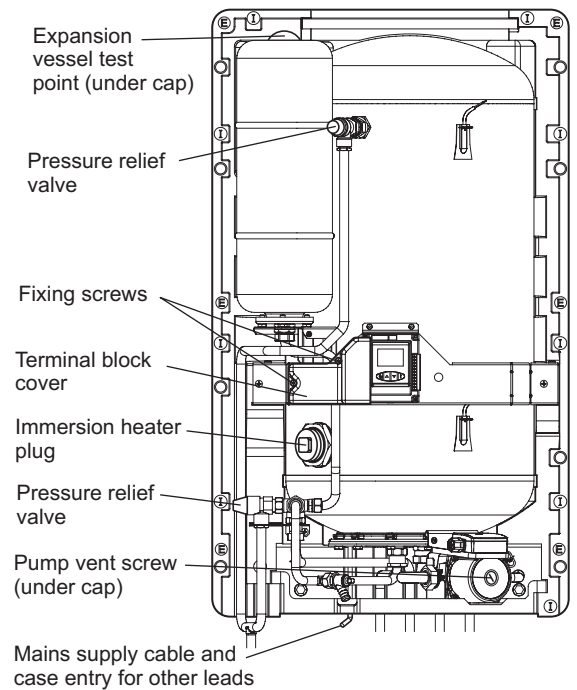
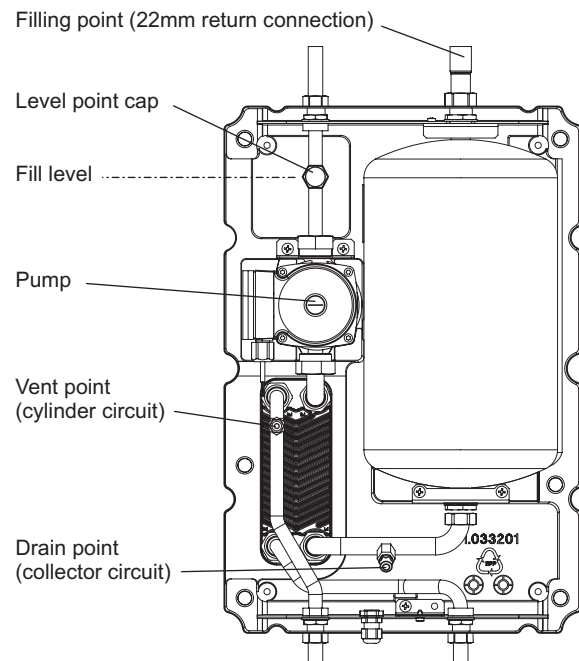

Fig. 20
Fig. 22
4. Check that the pressure in the cylinder expansion vessel (see Fig. 20) is 2.5 bar. If it is not, adjust the pressure to give 2.5 bar. Check when the system is not pressurised (drained).
2. Remove the two screws securing the terminal block cover to the left of the control unit as shown in Fig. 20.
3. **Connect the Drain Back Unit pump** - The drain back unit pump is fitted with a 1.9 m cable. Route the cable to the solar cylinder control unit through the hole in the bottom of the cylinder case (as indicated in Fig. 20) and pass it through a cable clamp.
Route the cable to the solar cylinder control box through the hole in the bottom of the cylinder case (as indicated in Fig. 20) and pass it through a cable clamp.
Vent the cylinder using the vent point in the drain back unit as shown in Fig. 22. Vent the cylinder pump by unscrewing the centre cap (see Fig. 20) and rotate the spindle using a small screwdriver until water runs from it and then replace the cap. Ensure the area around the pump is dry.
5. Check the operation of the two pressure relief valves (see Fig. 20) by turning the head anti-clockwise until it clicks. The click is the valve lifting off its seat allowing water to escape from the system - check that this is actually happening.
1. Unscrew the level point cap from the fitting in the flow pipe above the pump (Fig. 22).
6. Check the charge in the domestic hot water expansion vessel and re-pressurise, if necessary. See Fig. 20.